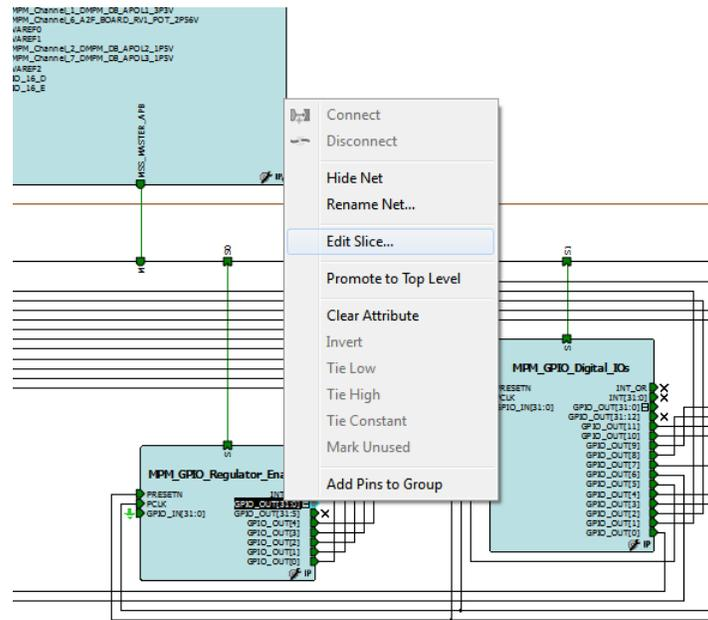

Figure 30 • Selecting Edit Slice
11. Now right-click GPIO_OUT[31:0] of MPM_GPIO_Regulator_Enables and select Edit Slice as shown in Figure 30.